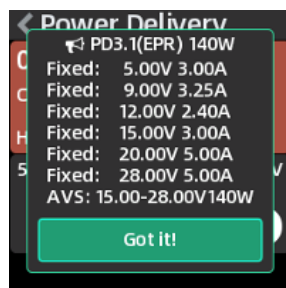

Figure 2
**Step 3:** Show supported PD information (Figure 2) and press "Got it!"